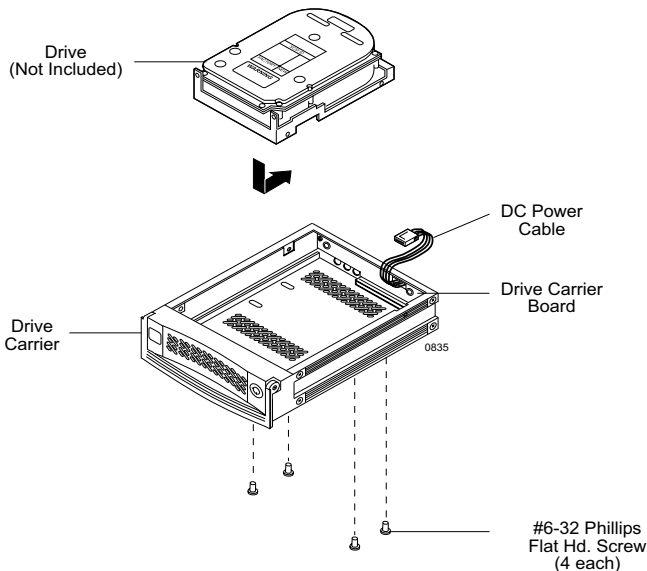

Figure 6: Drive Installation Assembly
1. Attach the DC power cable (from the Drive Carrier Board) to the drive (Figure 6).
2. Carefully insert the drive into the carrier. Slide the drive towards the Drive Carrier Board, so that the I/O connector on the drive mates with the connector on the Drive Carrier Board (Figure 6). **Make sure that the DC power cable is not pinched.**
3. Fasten the drive into place with four (4) #6-32 Phillips F.H. screws (Figure 6). Some drives may require minor adjustment before securing into carrier with screws.